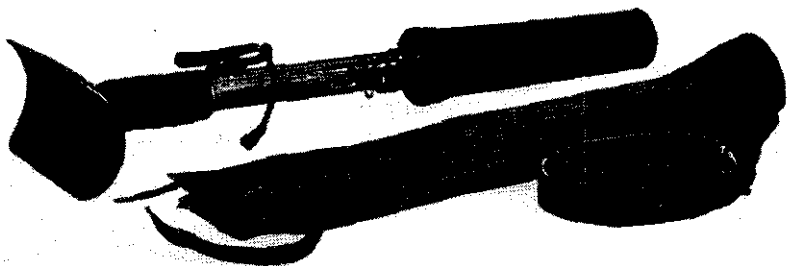

Figure 45.—Model 89 (1929) 50-mm grenade discharger, showing also canvas carrying case.
(1) *General.*—The Model 89 (1929) 50-mm grenade discharger is constructed of steel in the form of a pipe-like rifled barrel which is attached to a small base plate. The plate is curved so that it can be fitted over a medium-sized tree trunk or log (see fig. 45). The trigger housing (pedestal) is a tubular piece of metal with a lengthwise slot. Protruding through this slot is the trigger which cocks and fires in one operation. A spring sleeve covers the trigger housing at the base plate. A range-adjusting assembly is attached to the base cap of the barrel.